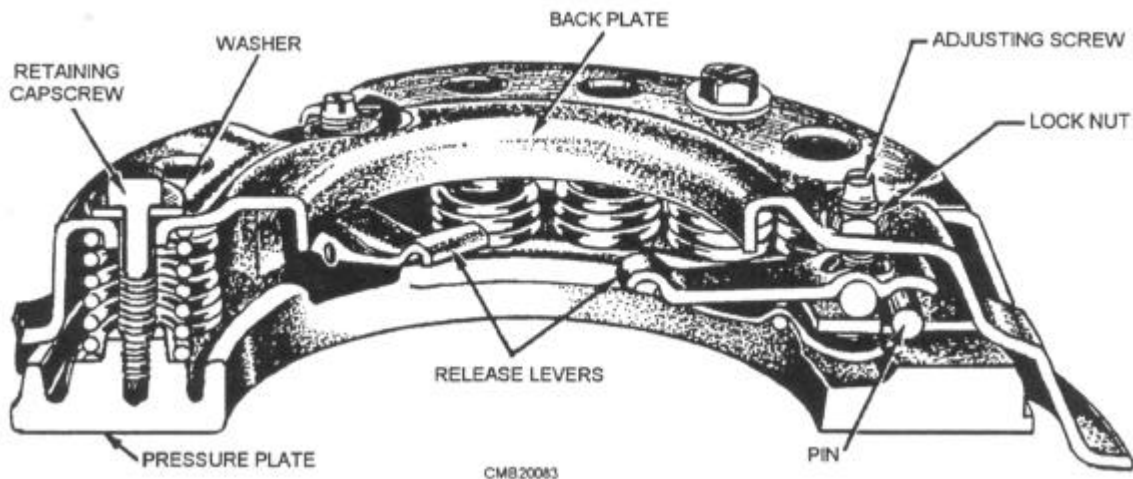

Figure 4-6.—Coil spring pressure plate.
**Coil spring pressure plate** uses small coil springs similar to valve springs (fig. 4-6). The face of the pressure plate is a large, flat ring that contacts the clutch disc during clutch engagement. The backside of the pressure plate has pockets for the coil springs and brackets for hinging the release levers. During clutch action, the pressure plate moves back and forth inside the clutch cover. The release levers are hinged inside the pressure plate to pry on and move the pressure plate face away from the clutch disc and flywheel. Small clip-type springs fit around the release levers to keep them rattling when fully released. The pressure plate